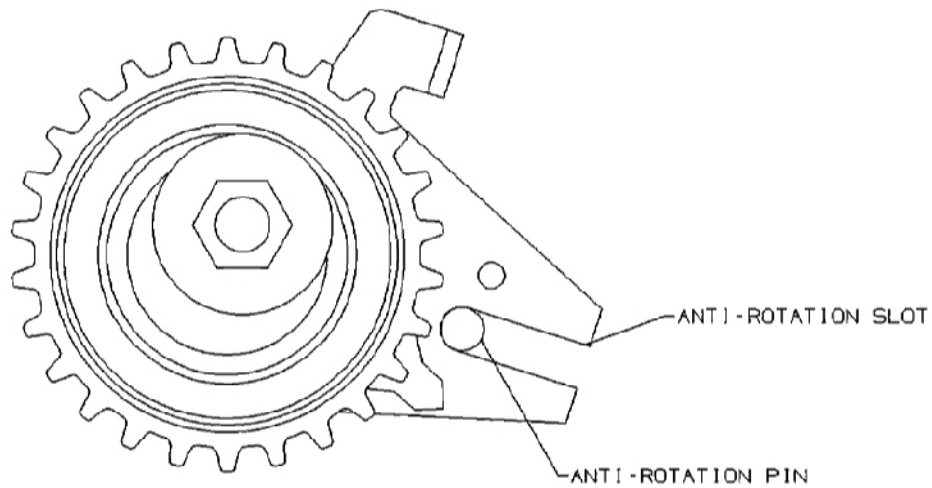

Figure 1: Tensioner shown at Free-Arm position placed on the mounting bracket.
4. Place a new tensioner onto the mounting bracket. Tensioner's Anti-Rotation Slot should fit over the Anti-Rotation Pin on the bracket (See Figure 1).